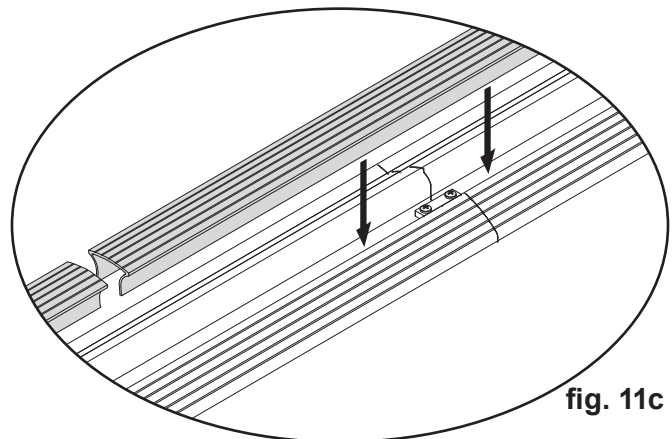

fig. 11c
6.5 Install the track top. (fig. 11c)